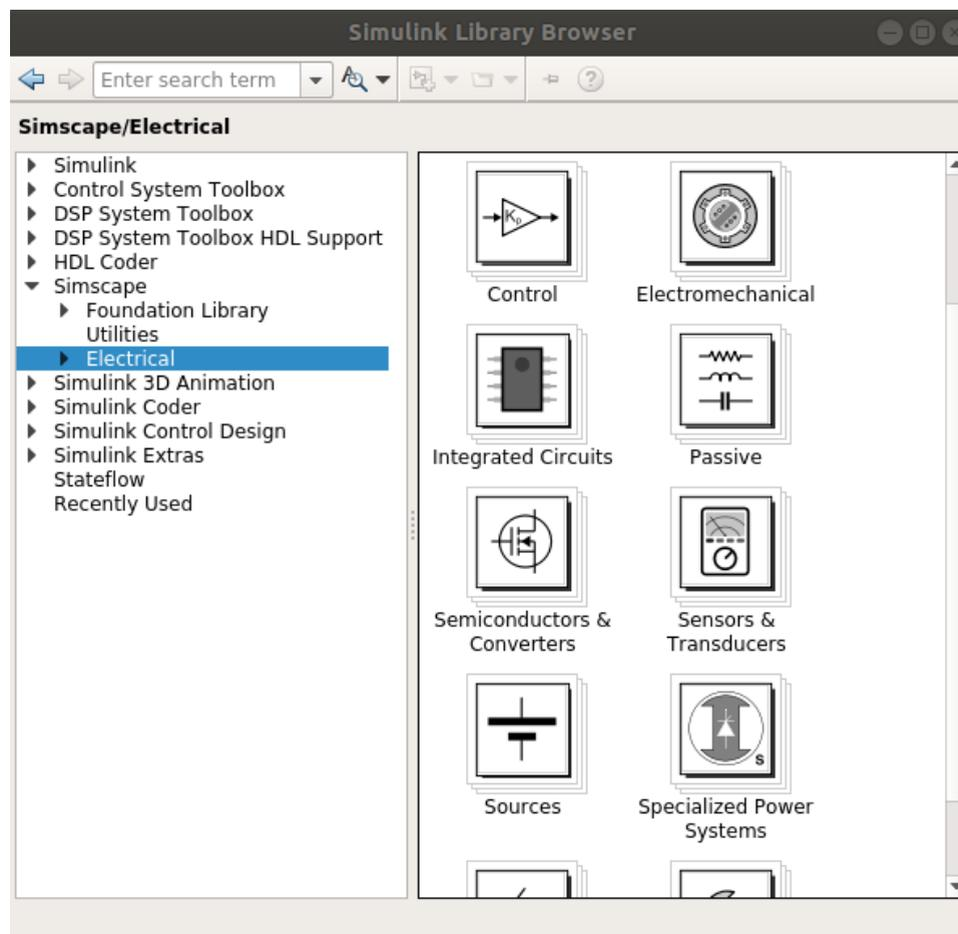

Figure 5: Navigate to Simscape-Electrical in Simulink Library Browser
- Click on the Library Browser button in the toolstrip of the model that opens. Navigate to Simscape -> Electrical as in Figure 5.